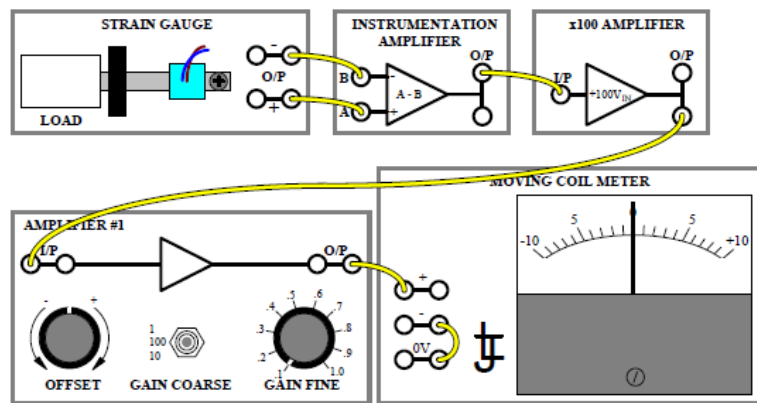

Fig 11.8
1. Connect the circuit as shown in Fig 11.8 and set Amplifier #1 GAIN COARSE control to 100.